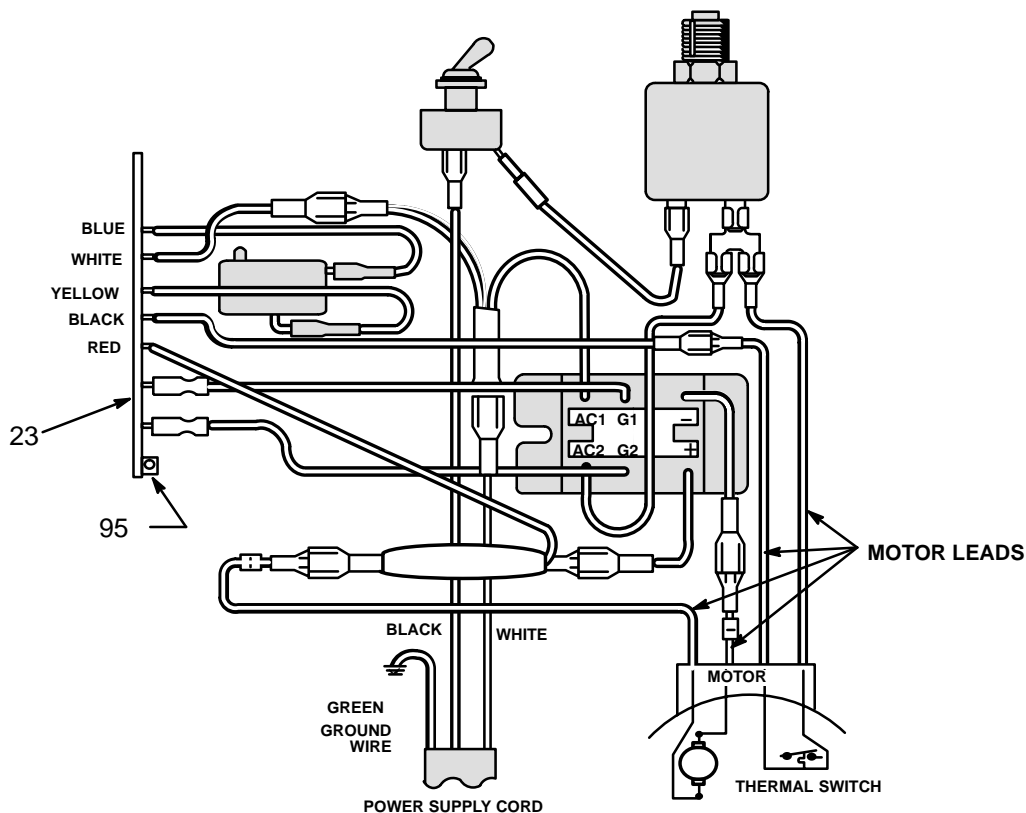

Fig 26-2
3. Disconnect ALL wires from the board, including the two heavy black wires. Pay close attention to where connections are made. Refer to Fig 26-2.
4. Pull out the black plastic-tipped pin (95). Push the bottom of the circuit board toward the wall of the control and carefully slide the board out.
6. Reconnect all wires. Refer to the wiring diagram in Fig 26-2. Ease the pin (95) into the retainer.
1. Disconnect the main fluid hose and the secondary fluid hose, if used. Disconnect the fluid hose (47) at the displacement pump nipple (46) and the pressure control nipple (344).
3. Hold the hex of the pressure control adapter (341) firmly with a 3/4" open end wrench to prevent turning. Use an adjustable wrench to unscrew the fluid outlet assembly.
4. Remove the pressure control cover (36). Disconnect the four motor leads. Refer to Fig 26-2.
6. Remove the conduit (22).
7. Remove the three screws (44) and lockwashers (40) and nuts (41) located below the pressure control. Remove the pressure control.
8. Remove the screws (15) holding the back mounting bracket (16) to the pressure control.
9. Install the new pressure control assembly in the reverse order of disassembly. Reinstall the conduit seal (5) around the wires in the conduit connector (345) to prevent motor contamination from entering the control. See the DETAIL below.